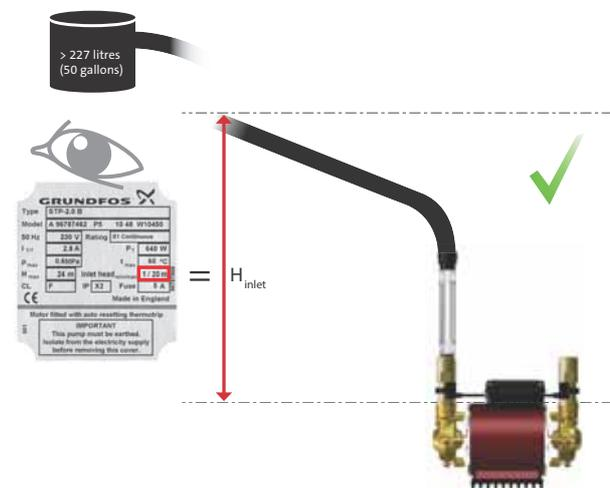

Fig. 3 Inlet head
- Sufficient inlet head. See table and fig. 3.